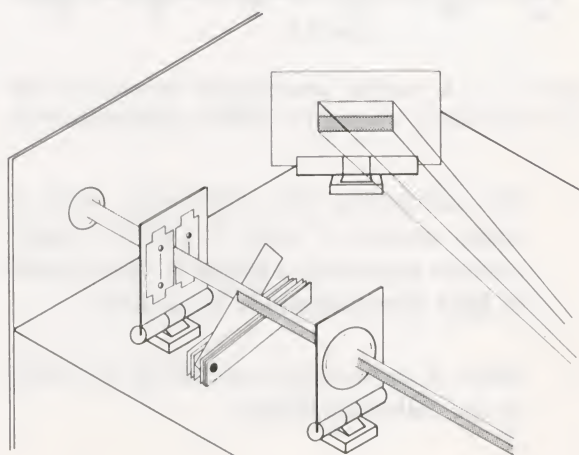

Figure 10.
1. *Place filter number 821*, a red filter, in front of the entrance slit, as illustrated in Figure 10. The filter should be close to the slit, and *cover only the lower half* of the slit. Then you will be able to compare light which has passed through the filter with light which has not.